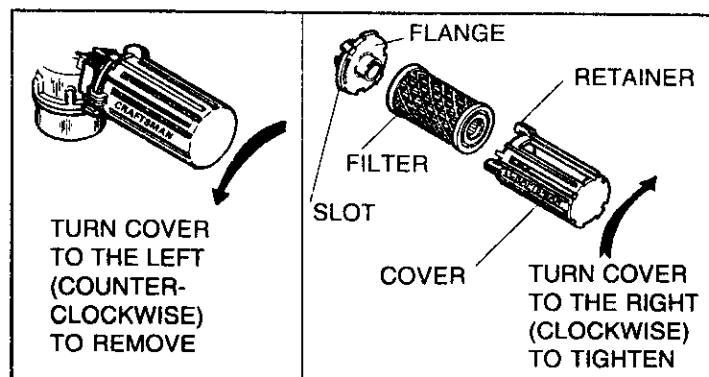

Figure 7
### ③ AIR CLEANER (see Figure 7):